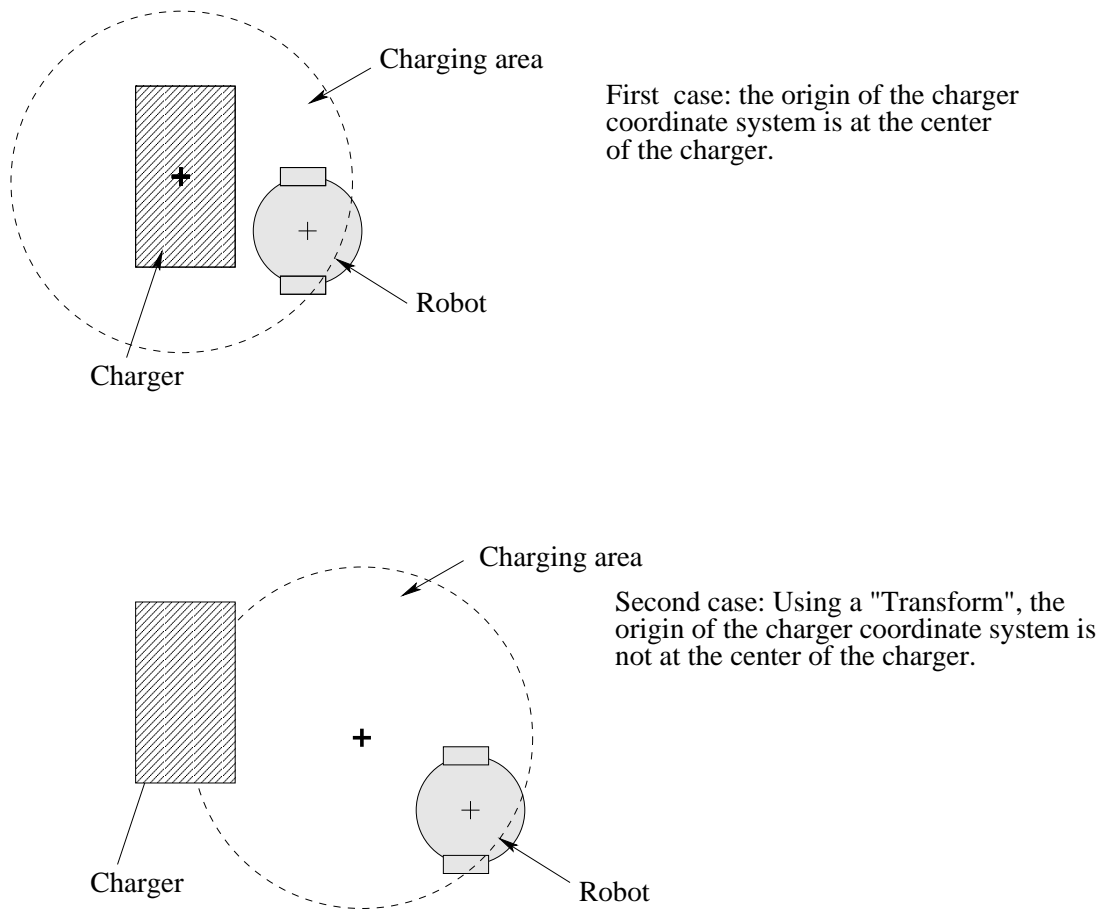

Figure 3.6: The sensitive area of a charger
- radius: radius of the charging area in meters. The charging area is a disk centered on the origin of the charger coordinate system. The robot can recharge itself if its origin is in the charging area. See figure 3.6.